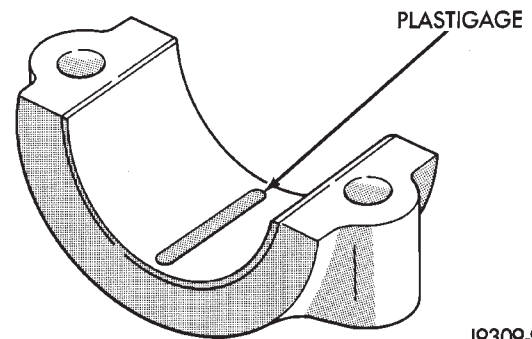
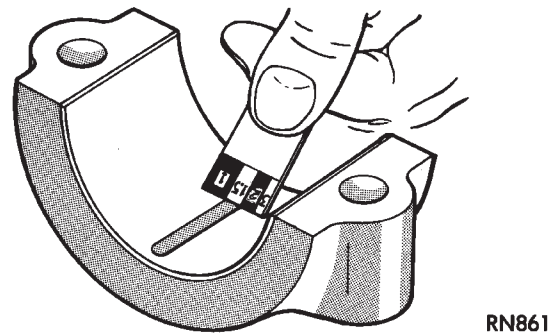

Fig. 2 Plastigage Placed in Lower Shell
Fig. 3 Clearance Measurement
(3) Place a piece of Plastigage across the entire width of the bearing shell in the cap approximately 6.35mm (1/4 inch) off center and away from the oil holes (Fig. 2). (In addition, suspect areas can be checked by placing the Plastigage in the suspect area). Torque the bearing cap bolts of the bearing being checked to the proper specifications.
(4) Remove the bearing cap and compare the width of the flattened Plastigage (Fig. 3) with the metric scale provided on the package. Locate the band closest to the same width. This band shows the amount of clearance in thousandths of a millimeter. Differences in readings between the ends indicate the amount of taper present. Record all readings taken. Refer to Engine Specifications. **Plastigage generally is accompanied by two scales. One scale is in inches, the other is a metric scale.**
(5) Plastigage is available in a variety of clearance ranges. The 0.025-0.076mm (.001-.003 inch) is usually the most appropriate for checking engine bearing proper specifications.
(1) Rotate the crankshaft until the connecting rod to be checked is at the bottom of its stroke.
(2) Remove oil film from surface to be checked. Plastigage is soluble in oil.
(3) Place a piece of Plastigage across the entire width of the bearing shell in the bearing cap approximately 6.35 mm (1/4 inch.) off center and away from the oil hole (Fig. 2). In addition, suspect areas can be checked by placing plastigage in the suspect area.
(4) Before assembling the rod cap with Plastigage in place, the crankshaft must be rotated until the connecting being checked starts moving toward the top of the engine. Only then should the cap be assembled and torqued to specifications. **Do not rotate the crankshaft while assembling the cap or the Plastigage may be smeared, giving inaccurate results.**
(5) Remove the bearing cap and compare the width of the flattened Plastigage (Fig. 3) with the metric scale provided on the package. Locate the band closest to the same width. This band shows the amount of clearance in thousandths of a millimeter. Differences in readings between the ends indicate the amount of taper present. Record all readings taken. Refer to Engine Specifications. **Plastigage generally**